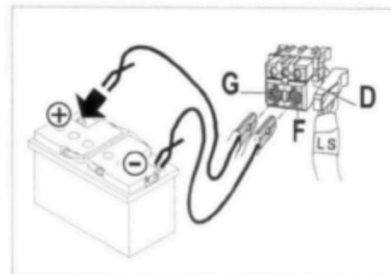

Figure 7
- 8 If the wire in the flat plug receptacle ⇒ *Figure 7* -item **F-** is connected to the **ground terminal** and the wire in the flat plug receptacle ⇒ *Figure 7* -item **G-** is connected to the **positive terminal** of the 12-volt voltage source, the seat rail will move **backwards**.